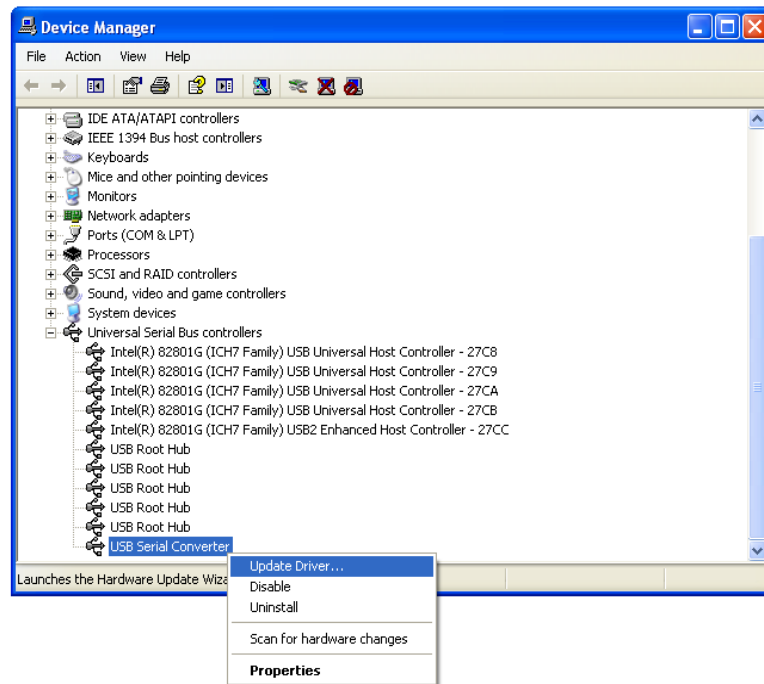

Fig. 47
- In the "Universal Serial Bus Controllers" submenu find the "USB Serial Converter" device. Right-click on this device and choose "Update Driver" (*Fig. 47*).